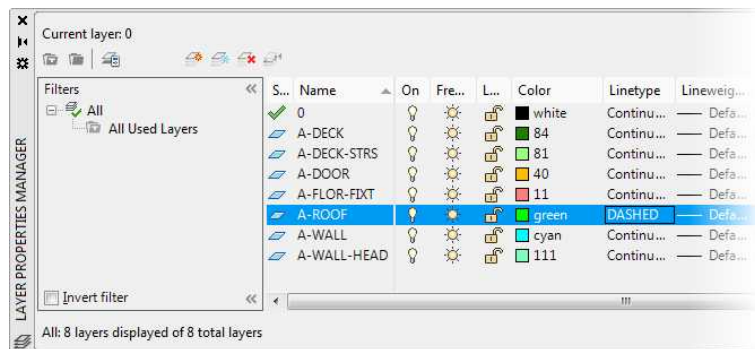

FIGURE 6.16: The Layer Properties Manager with the A-ROOF layer assigned the Dashed linetype
6. Click DASHED to highlight it, and then click OK. In the Layer Properties Manager, the A-ROOF layer has been assigned the Dashed linetype (see Figure 6.16).